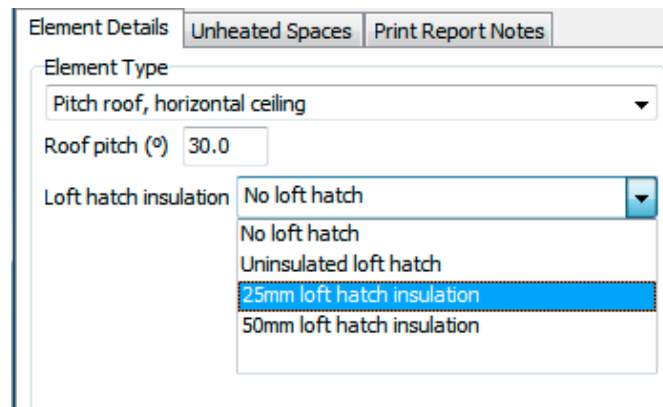

Figure 3: Setting loft hatch details
2. Set **Loft hatch insulation** to the most appropriate value (Figure 3).